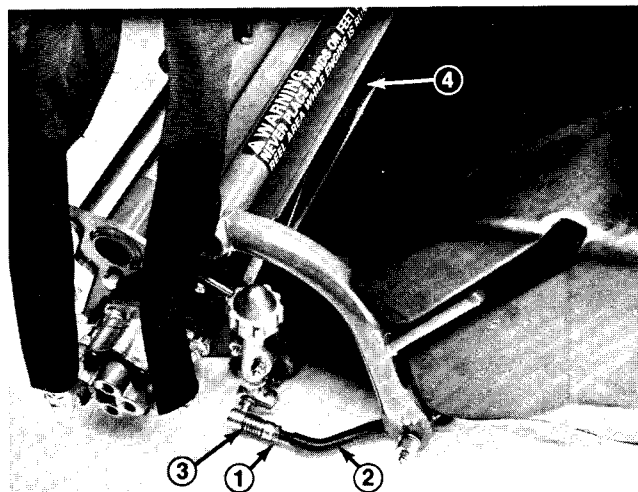
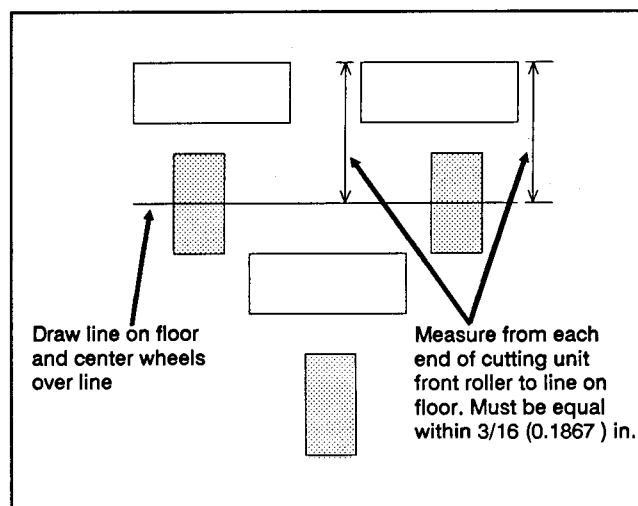

Figure 18a
Figure 18b
3. Loosen the jam nuts on the pull arms and adjust the ball sockets until there is 1/4 in. to 1/2 in. (6 to 13 mm) clearance between the lip of the basket and the reel blades (Fig. 18a). This prevents grass clippings from dropping on the ground.
5. Make sure each of the three (3) cutting units track straight with the traction unit:
A. On a smooth, level surface, draw a straight line on the floor (Fig. 18b). Push traction unit forward (removing slack from pull arms) so center of each front wheel is on top of the line. Use a plumb bob or square to make sure each wheel is centered on the line.